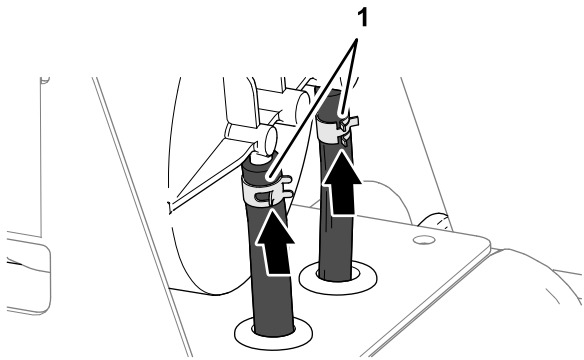

Figure 92
4. Secure the hoses to the fittings with the clamps (Figure 92)